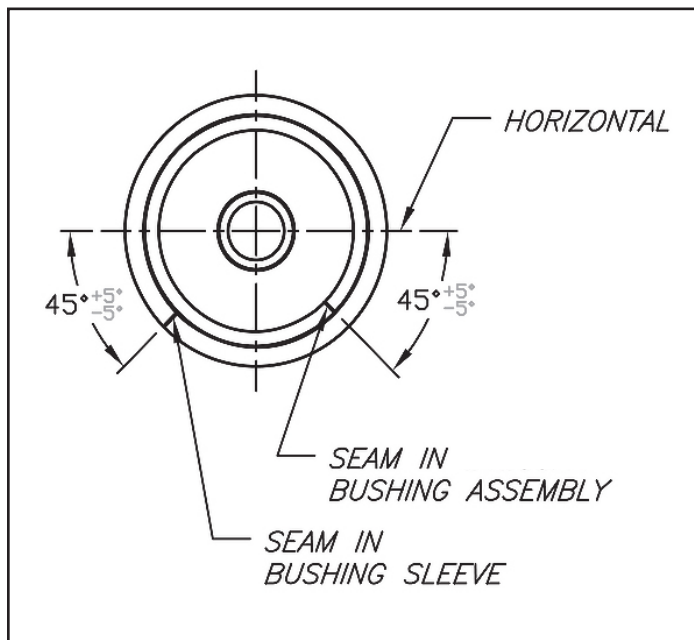

Figure 12.
1. Remove the pivot bushing assembly from the bushing sleeve welded to the frame by grinding away the four (4) welds on each side of the sleeve.
2. Position (center) new bushing assembly into the bushing sleeve welded to the frame. Rotate (clock) the seam in the bushing assembly to -45° (Figure 12).